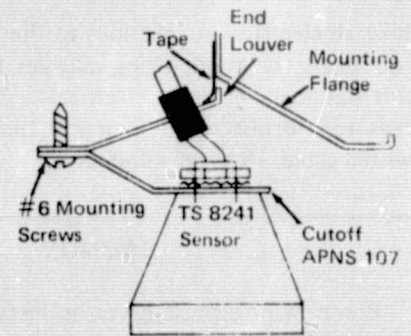

Figure 5.
- C. Fig. 5. Locate hole center on an end louver about 1/2" from the junction of the louver and the mounting flange.
- C. Fig. 5. Drill one hole on end louver.
- Fig. 5. Cut off one side of APNS 107 as shown.
- Fig. 5. Cover the crack between the end louver and mounting flange at least 12" on each side of the sensor. A 24" length of 3/4" tape stuck to mounting flange can be used.